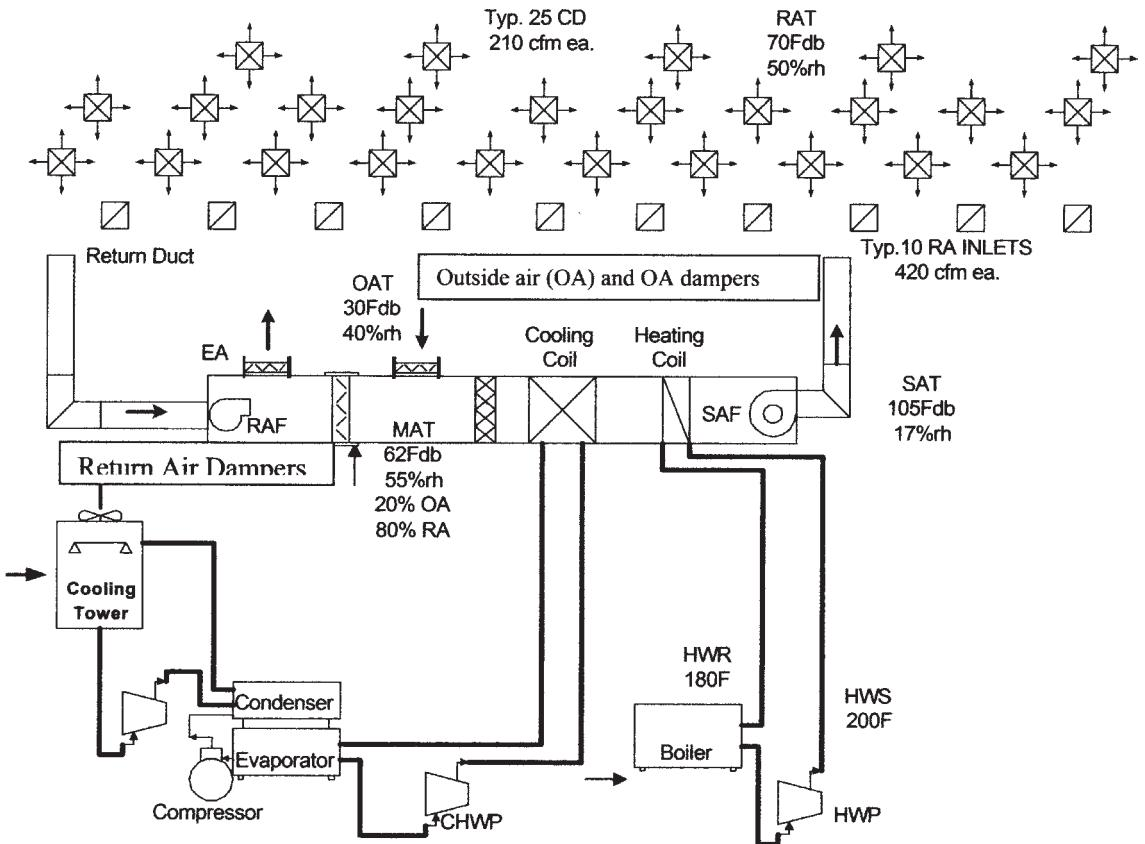

Figure 3-10. Central HVAC System "Ventilating"
Figure 3-10 shows 20% of the total supply air is ventilation outside air (OA) and 80% is return air (RA). The outside air is brought (or forced) into the mixed air plenum by the action of the supply air fan. The outside air coming through the outside damper is mixed with the return air from the conditioned space. The return air dampers control the amount of return air. If the room pressure is too high, the exhaust air (EA) dampers open to let some of the return air escape to the outside, which relieves some of the pressure in the conditioned space. Exhaust air dampers are also called relief air dampers.